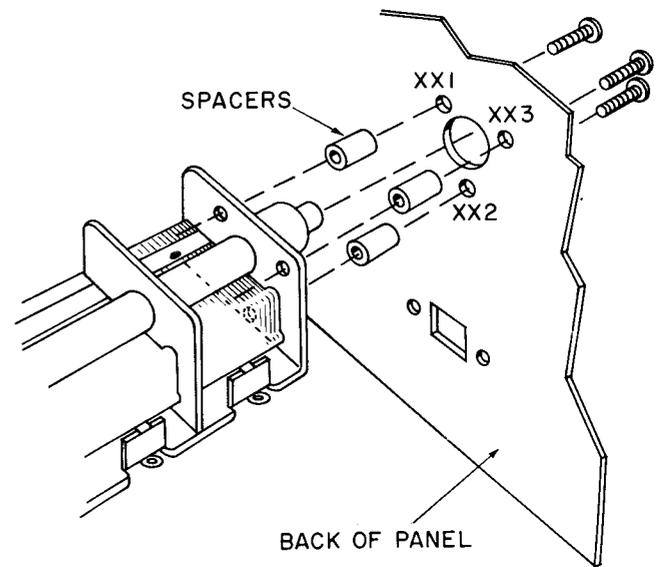

FIG. 11. Mounting the tuning capacitor.
- (1) Mount the tuning capacitor on the back of the front panel at hole XX by placing the hollow metal spacers between panel holes XX1, XX2, XX3, and the corresponding tapped holes in the front of the tuning capacitor, as shown in Fig. 11. Put 3/8", 6-32 screws through the panel holes and hollow spacers and into the tuning capacitor to hold it in place. Tighten the screws firmly.
- (2) Place the panel against the front of the chassis. Turn the shaft of the attenuator switch that you previously wired to its center position. Insert the switch shaft through a control lockwasher, and through hole C from the bottom of the chassis, and then through corresponding hole TT of the front panel. Rotate the switch in its mounting hole until the flat side of the shaft is toward the bottom of the panel. Put on the flat washer and the nut, drawing it up securely.
- (3) Connect the free end of the .56-ohm resistor (green-blue-silver-gold) to terminal 40. Do not solder.